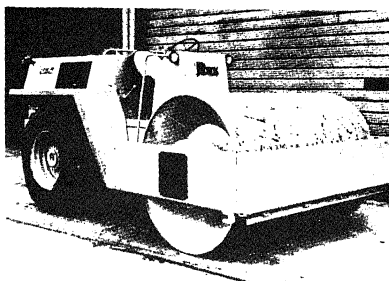

FIGURE 26
7. Figure 26. Using a sizeable pry bar, place pry bar between roller frame and edge of roller on the side being repaired and pry to force the roller away from the roller as far as possible. This will permit more clearance to remove the isolator.